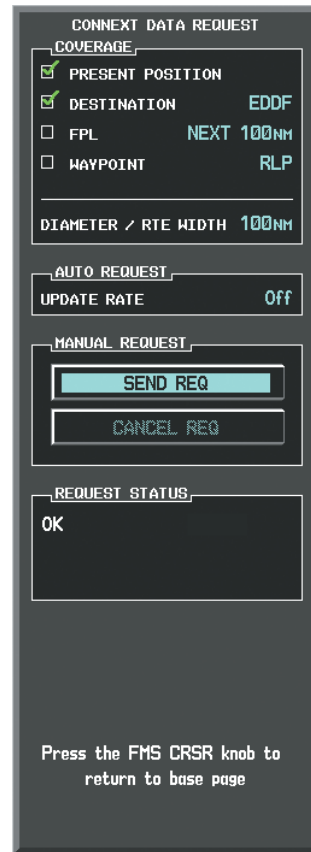

Figure 6-67 Connext Data Request Menu
- 4) Turn the large **FMS** Knob to highlight the desired coverage option(s) and press the **ENT** Key to check or uncheck one or more of the following coverage selections (Figures 6-67, 6-68):